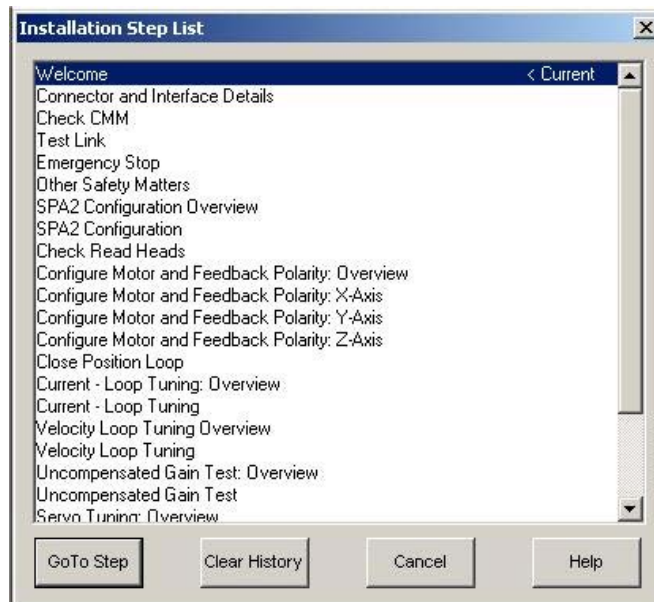

Figure 2
2. The Renicis commissioning step list will now be displayed within a window that will open on the desktop, as shown in the figure 2 below: